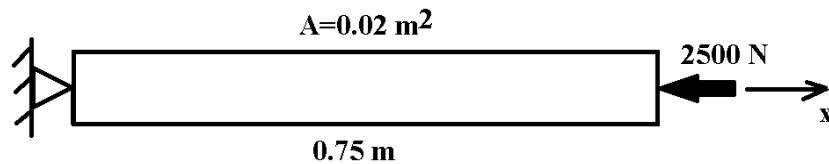

Fig. 1b
- b) Determine the displacement for the bar as shown in Fig. 1b below. Use Rayleigh –Ritz method for the solution. Take $E = 70 \text{ GPa}$. 10